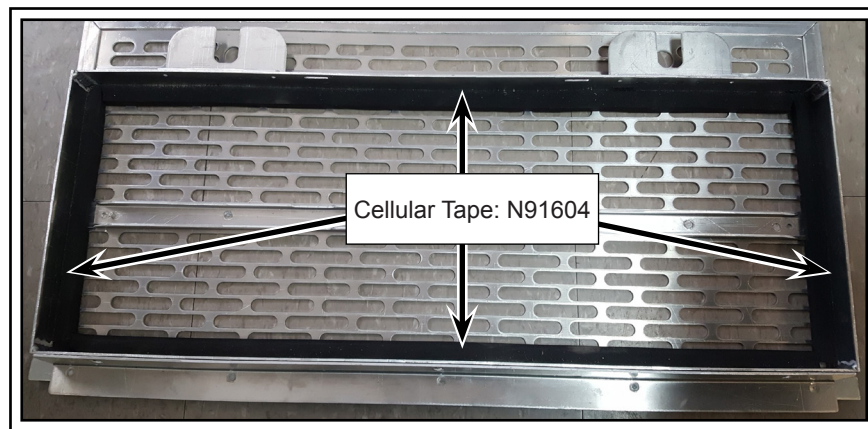
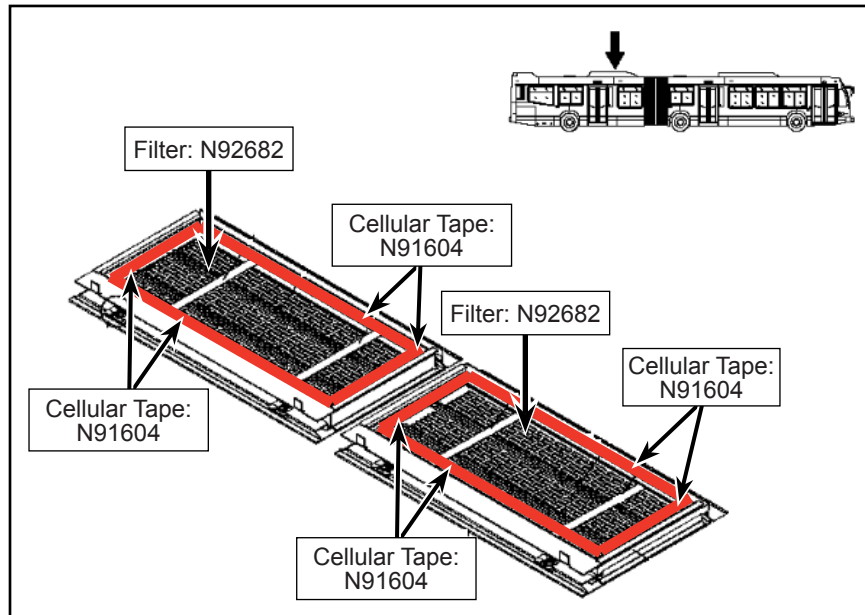

Figure 6 - Installation of Cellular Tape
Figure 7 - Installation of New Rigid Border Filter (Rear Section)
- 1.13. Install new indicated cellular tape on the interior perimeter of grill assemblies (see Figure 6 and Figure 7) and ensure that there are no gaps left.
- 1.14. Replace the existing filter on the grill assemblies with new rigid border filters as shown (see Figure 7).